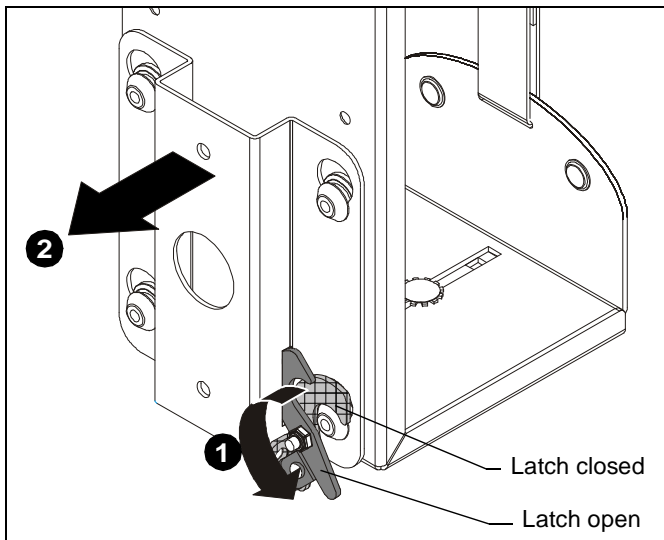

Figure 2
1. Release bracket from mount by moving flag to open position. (See Figure 2)
2. Remove bracket from mounting buttons on back of mount. (See Figure 2)